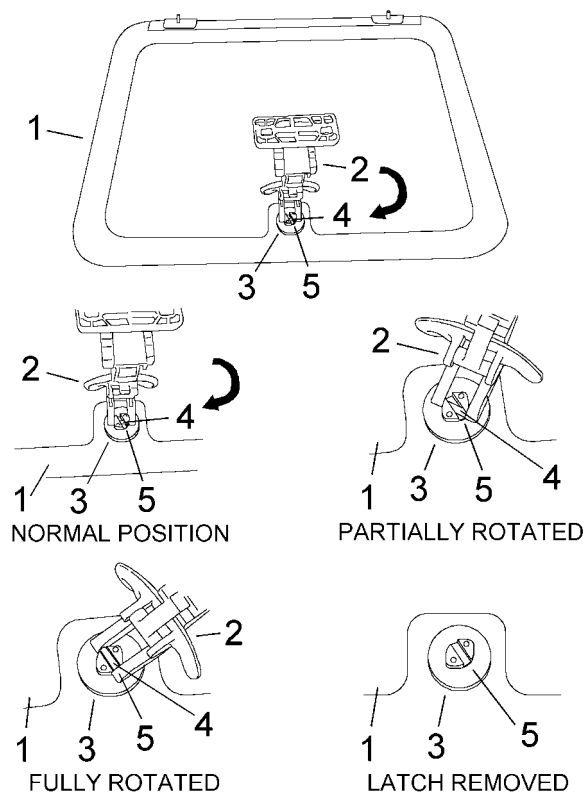

Figure 7 Extended Cab Rear Side Window Latch Components
8. Remove the latch by rotating it clockwise until the latch bar disengages from the latch pedestal slot (Figure 7).